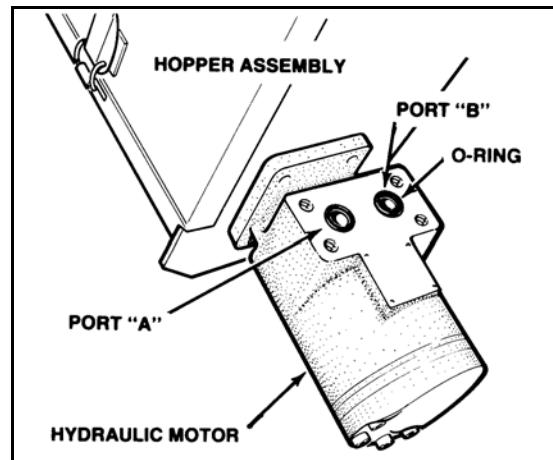

Figure 3.8 Hopper Assembly
- Position solenoid with side marked "P" or "IN" over "Port A" on hydraulic motor and secure solenoid with four 5/16" x 2-3/4" bolts (Figure 3.8 and 3.9).